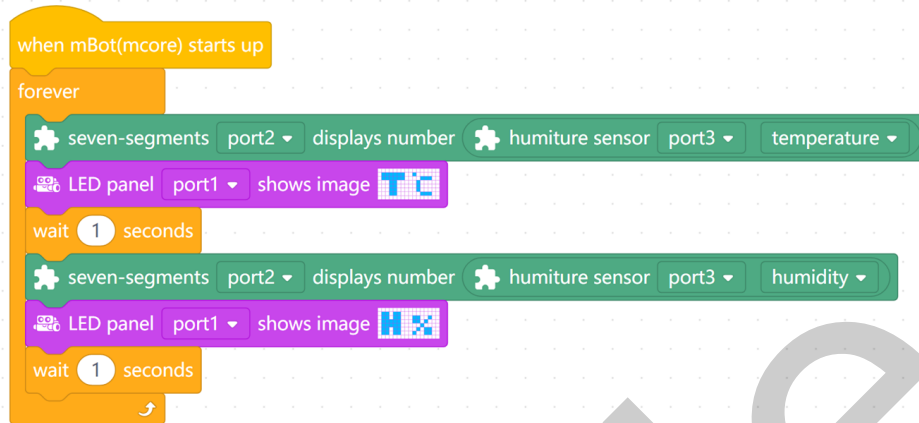

FIGURE 13 Adding two LED panel blocks to our program with labels and units
- Once you have the display finished, drag the blocks under the "seven segments" blocks so your program is similar to the program in Figure 13.
- If you were to run the Figure 13 program on mBot, the program would run "forever" (or until you turn off mBot). The LED Matrix would also stay on "forever," which could quickly run down the mBot battery. So, let's incorporate an energy saving feature by modifying this program to display the weather information for a few cycles after a user presses the Onboard Button.